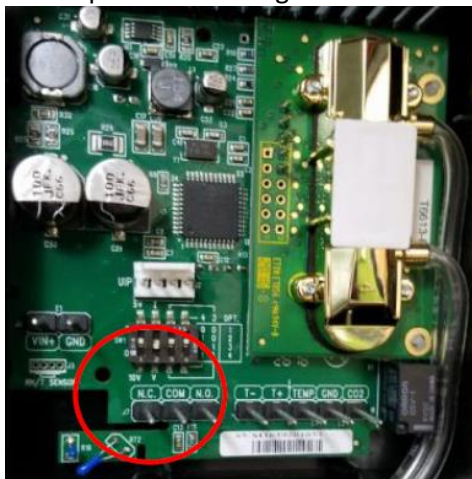

Figure 1. Internal Dipswitch Location
1. Verify the dipswitch settings inside the sensor are in the correct positions. See figure 1 & 2.